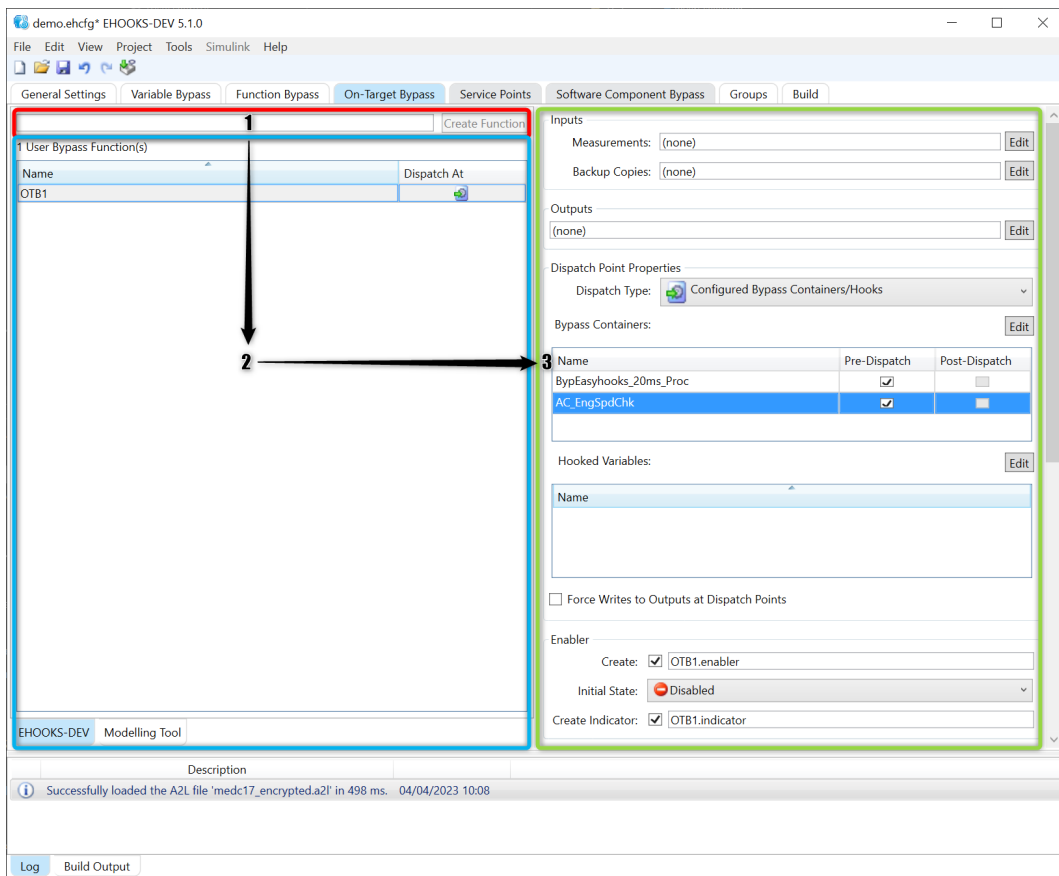

Figure 5.19: On-Target Bypass Configuration
- Step 3: Configure the properties to provide the desired on-target bypass configuration for the selected on-target bypass function (see green highlight in figure 5.19).